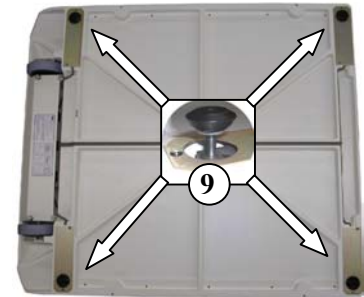

Figure 3: Leveling Feet Installation
STEP 6: Attach the Display Cable Connector (8) to its mate in the Base Assembly. Slide the extra cable back up into the mast pipe.
STEP 7: Install the six (6) "D" cell batteries as indicated on the Battery Compartment Cover label. Tightly close the cover.
STEP 8: (Figure 3) Attach Leveling Feet (9) (separate package provided) to each of the four (4) corners of the Base Assembly. Screw the Leveling Feet approximately 1/2 inch into the hole of each of the four (4) transducer cells. **Note:** Leveling feet must be in place to operate the scale properly.